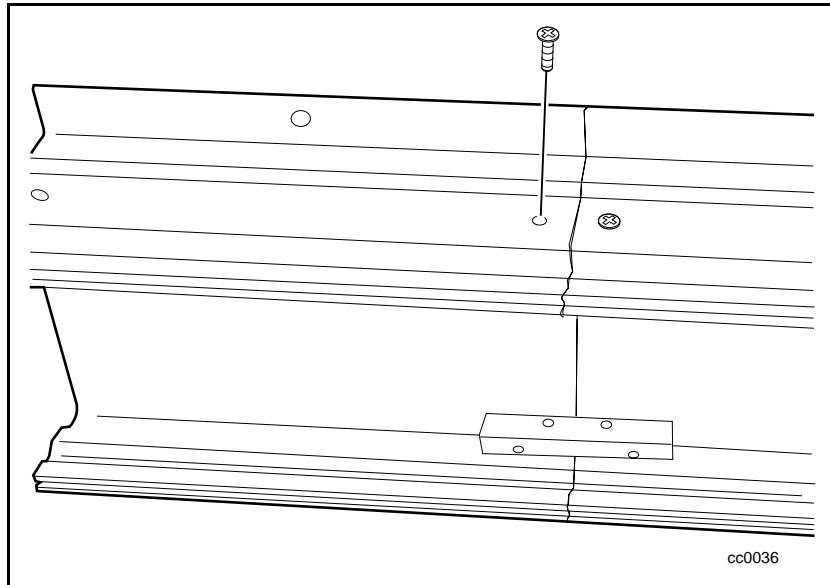

Figure C-17. Attaching tie bars to the PTM extension
7. Attach the tie bars to the PTM extrusions using four screws (two each side). See Figure C-17.